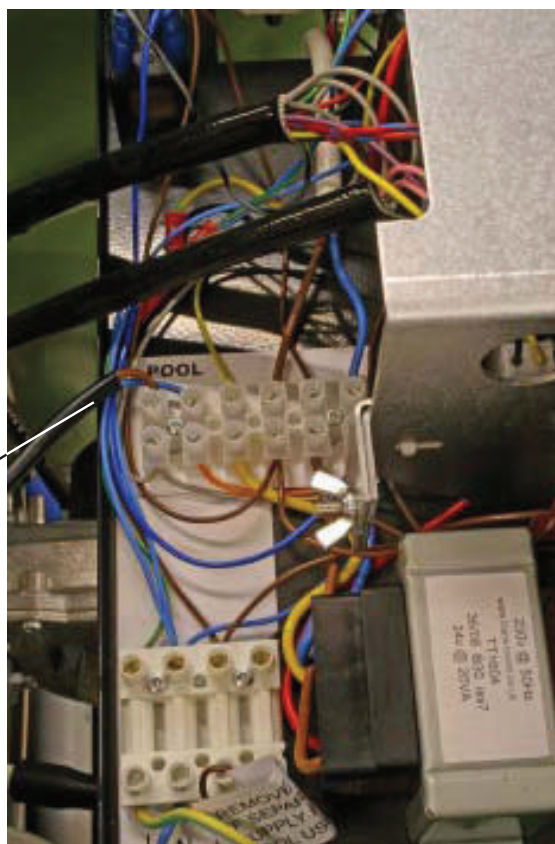

Fig. 10.2
- Choose which Heater is to be the Master and then make the rest Slaves by disconnecting their Pool Temp Sensors. Remove the leads to the Pool Temp Sensor from the six way terminal strip on the electrical chassis and tie back in a safe place. (**Fig. 10.2**)